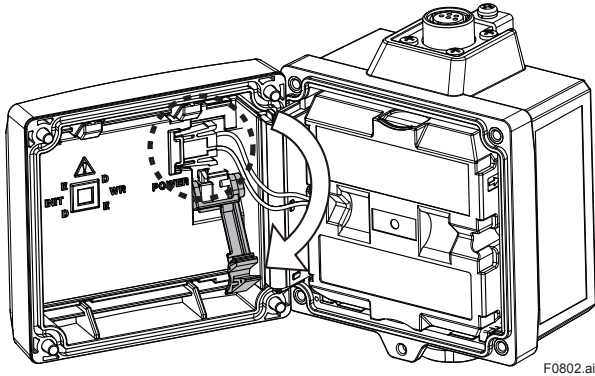

Figure 8.1 Removing the Battery Pack
2. Pull the lever in the direction of the arrow in Figure 8.1.